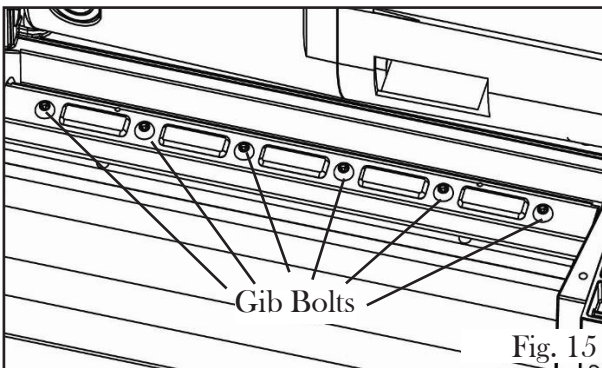

Fig. 15
3. Press down on the red spindle release button located on the left side that allows the cutterhead to rotate properly. Rotate it until the six gib bolts are exposed and secure them in place. (Fig. 15).
4. Loosen and remove the six bolts from the gib (Fig. 15).